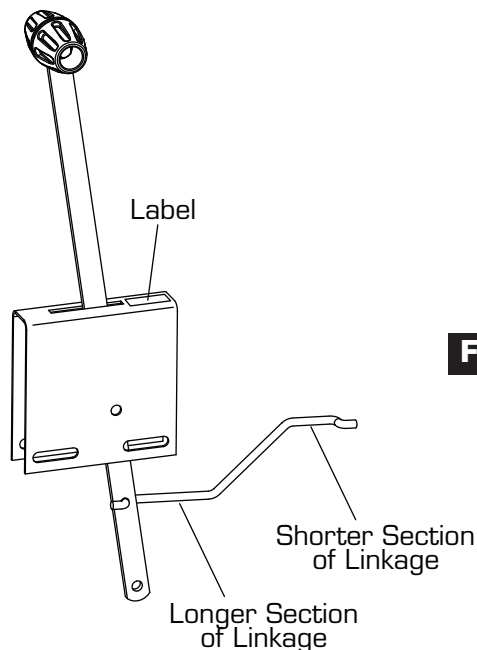

Figure 9
12. Slide Control Lever into U shaped bracket as shown, Figure 9. The label on the U shaped bracket faces the hopper.
13. Install Control Linkage into Control Lever. NOTE orientation of on-off label on U shaped bracket. The shorter section of linkage should face upward and away from lever as shown, Figure 9.